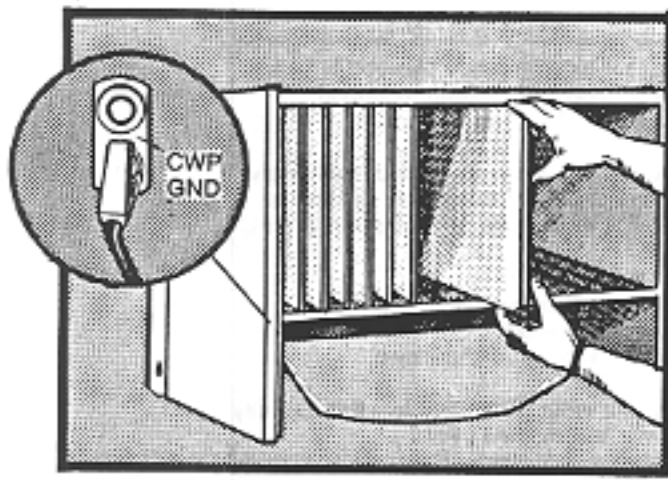

Figure 5-8 PCB INSERTION
- 6.03 To minimize static charges, first discharge any accumulated body static by touching a grounded object and then attach a wrist ground strap to the CWP GND lug on the KSU (Figure 5-8). Keep foot movement to a minimum to prevent a charge build-up.
**6.06** PCBs should be installed with the thumb of each hand on the PCB extractors and the fingers on the KSU frame ( Figure 5-8 ). Push the PCB until firmly seated. Do not use the heel of your hand or any tool to hammer a PCB into a connector.